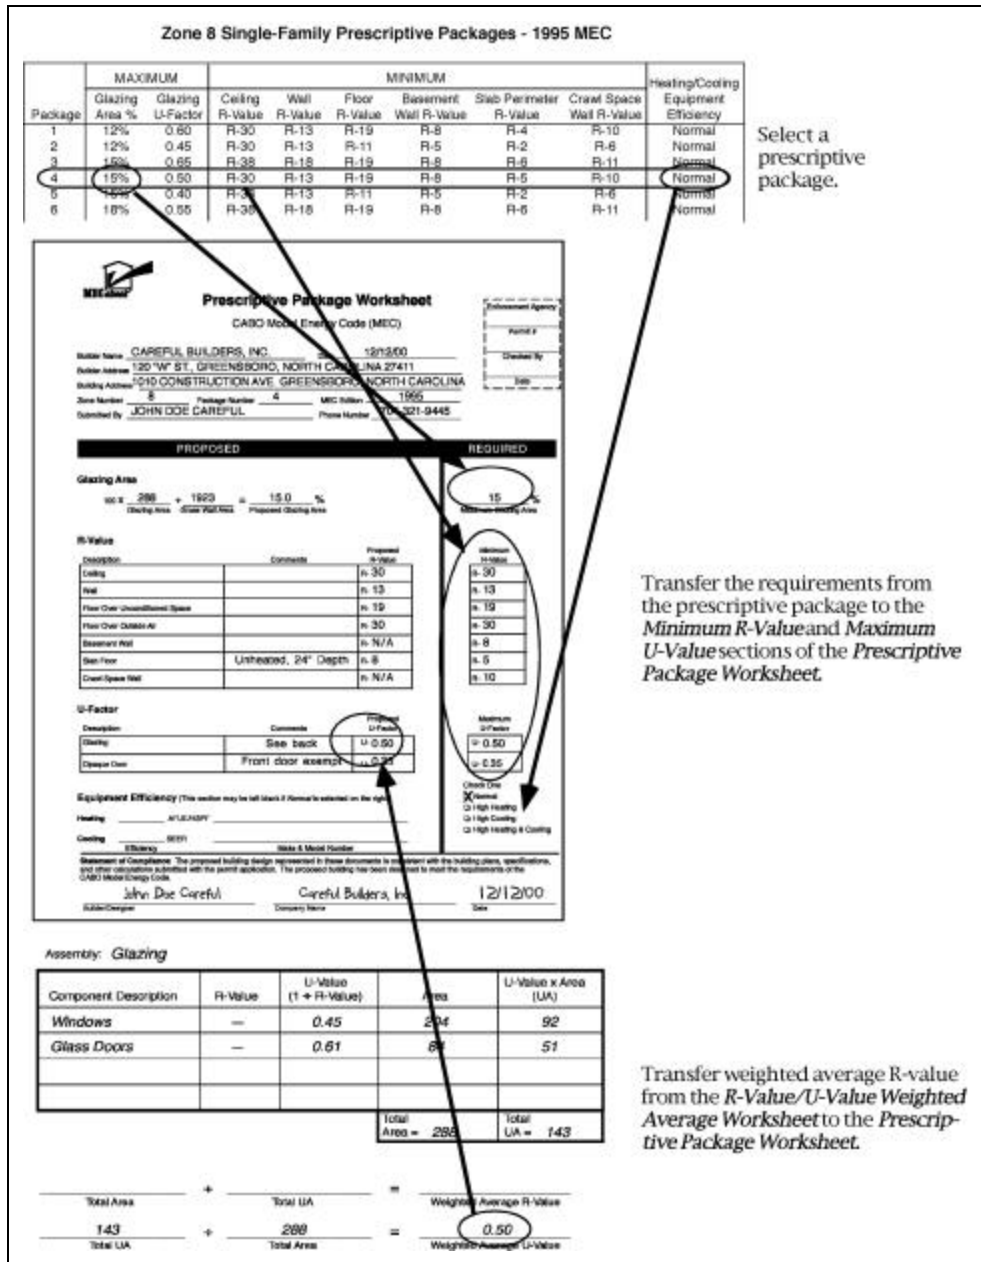

Figure 5. Determining Proposed and Required R-Values and U-Factors
Table 5 lists the components that make up the building envelope, the dimensions of some of these components, and the proposed insulation R-values and window and door U-factors. Figure 5 shows how to determine the proposed and required R-values recorded on the *Prescriptive Package Worksheet*.
**Glazing U-Factor** Two different glazing U-factors were proposed. The windows have a U-factor of 0.45 and the sliding glass doors have a U-factor of 0.61, both of which have been rated and labeled by the manufacturer in accordance with the NFRC test procedure. Because 0.61 is greater than the maximum U-factor specified in the package (0.50), you must calculate an area-weighted average U-factor. Complete the *R-Value/U-Factor Weighted Average Worksheet* and transfer the results to the *Prescriptive Package Worksheet*. Figure 5 shows the portion of the *R-Value/U-Factor Weighted Average Worksheet* used to calculate the average glazing U-factor for this house (0.50). If both proposed U-factors had been less than or equal to the required U-factor, then the weighted-average computation would not have been necessary and you could have recorded the higher of the two U-factors.